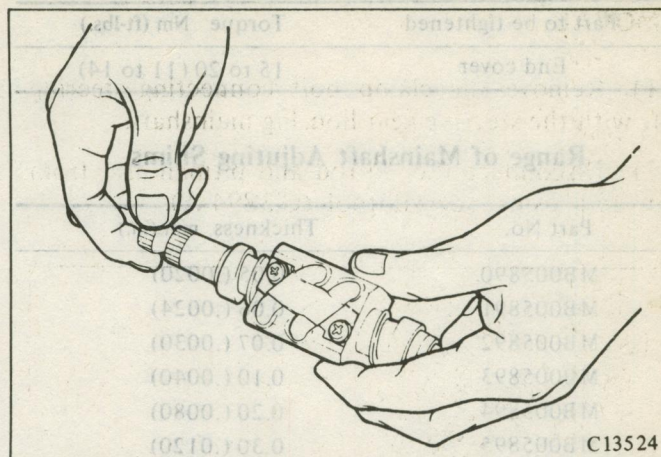

Fig. 23 Checking the Ball Nut Operation
(1) Check the clearance between the crossshaft and bushing. If excessive wear is present, replace either part or both as necessary.
(2) Check the mainshaft bearing for damage and wear. Replace if necessary.
(3) Check the operation of the ball nut and the mainshaft. Also check the amount of axial play of the mainshaft. If rotation is not smooth or if excessive free play is found, replace assembly. (Fig. 23)